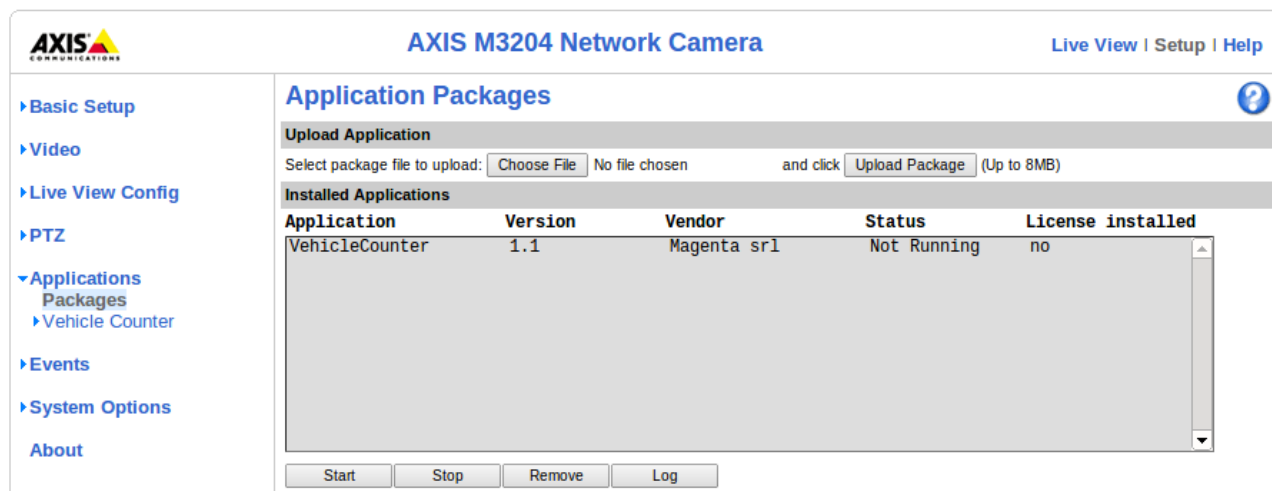

Figure 1: The Axis camera Application Packages page
3. once installed, the VehicleCounter application will be listed in the “Installed Application” section of the page, as depicted in Figure 1 (Vehicle Counter version may vary).
To run the application, select it from the list in the “Application Packages” page of the camera server web interface and click the “Start” button (see Figure 1). The application status should change from “Not Running” to “Running”. To stop the application simply click the “Stop” button.